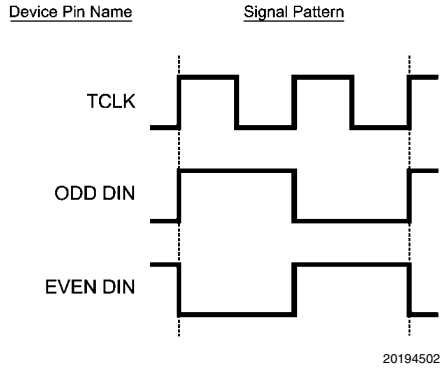

FIGURE 1. Serializer Input Checkerboard Pattern
**Note 11:** Figures 1, 2, 8, 12, 14 show a falling edge data strobe (TCLK IN/RCLK OUT).